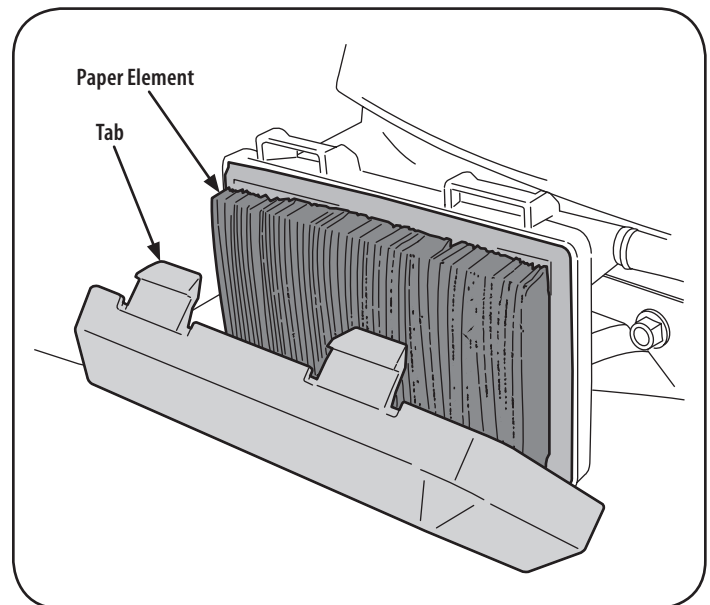

Figure 17
1. Press down on the tabs securing the air filter cover. Pull back and remove the cover. See Figure 17.